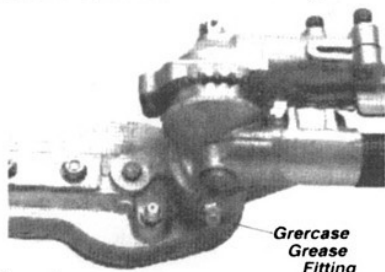

Figure 1
- Side the gearcase out of the tube. Using a grease gun, pump lithiumbase grease (about 10 grams) into the grease fitting on the gearcase until you see old grease being purged from the gearcase (Figure 1). Purged grease will be visible in the outer tube cavity. Clean up the excess grease, then reassemble the gearcase onto the outer tube. Make sure the index bolt fits into the hole on the outer tube. Securely tighten both bolts.